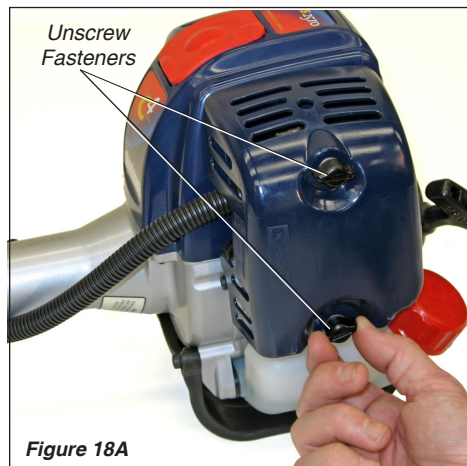

Figure 18A
1. Remove the air cleaner cover by loosening the thumb screws and lifting up. See Figure 18A.